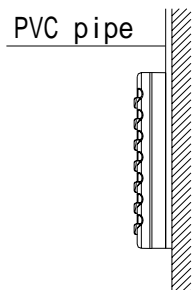
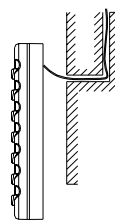

Fig6 : Surface Mounting of Cable
Fig7 : Concealed mounting of Cable
- ◆ If the communication line between the wire controller (85×85×20) and the indoor unit is surface-mounted, use 1# PVC pipe and make matching recess in the wall (refer to Figure 6); If concealed installation is adopted, 1# PVC pipe can be used (Refer to Figure 7).